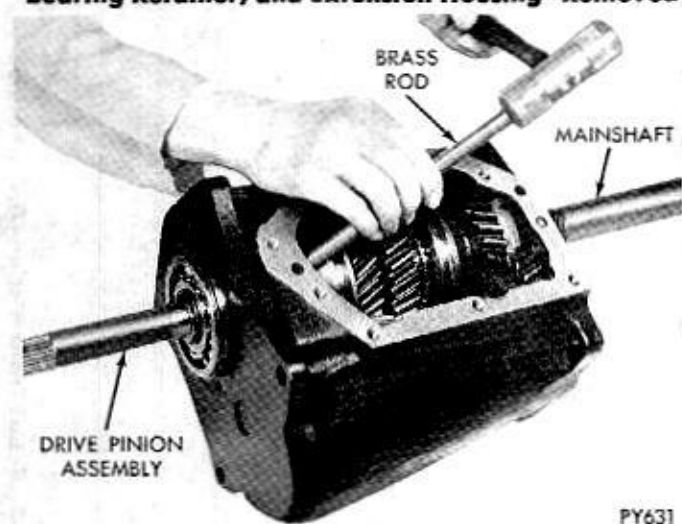

Fig. 5—Tap Drive Pinion Forward for Mainshaft Pilot Clearance
(12) Carefully tap drive pinion forward to provide maximum clearance for mainshaft installation (Fig. 5).